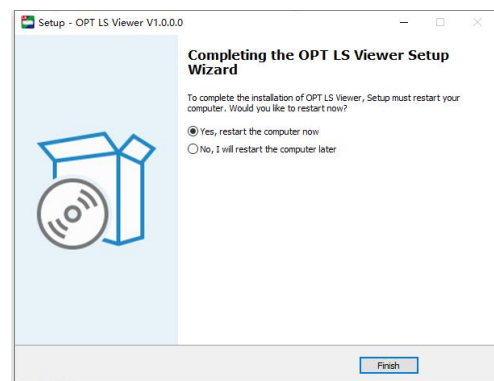

Figure 1.1.7 Installation completion page
6、After installation is complete, you need to restart the computer. Select 'Yes, restart the computer now' to restart the computer immediately. Select 'No, restart the computer later' to not restart the computer at the current time. As shown in Figure 1.1.7.